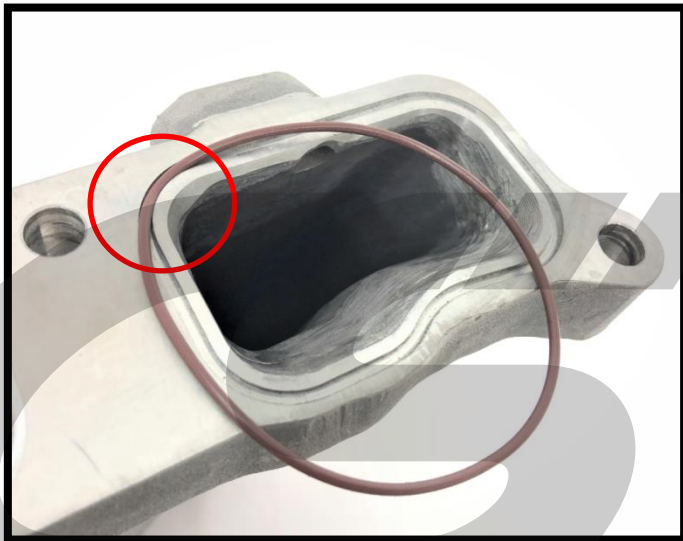

Figure 7d
- d) Before installing the CorkSport Intake Manifold, install the supplied Viton O-rings into the O-ring grooves on the head flange of the CS intake manifold. Starting in a corner, place the O-ring into the groove as shown in **Figure 7d**.